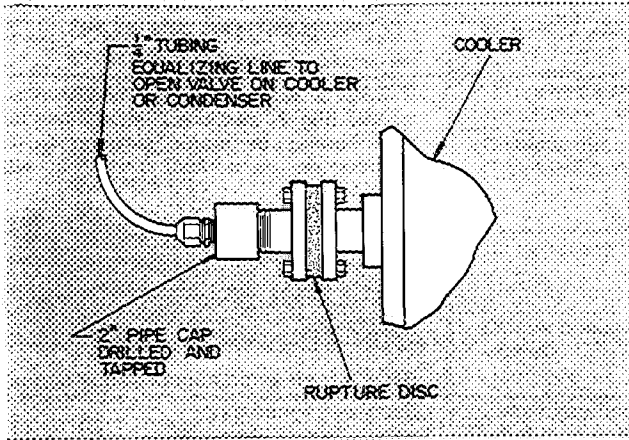

Fig. 5 — Equalizing Rupture Disc Pressure
1. Equalize rupture disc pressure (see Fig. 5).